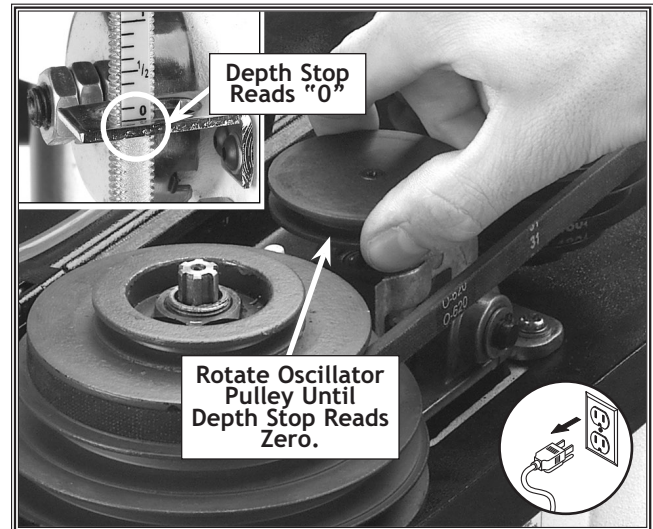

Figure 37. Retracting the oscillator for drilling.
2. Rotate the oscillator pulley until the depth stop reads "0" (see **Figure 37**).